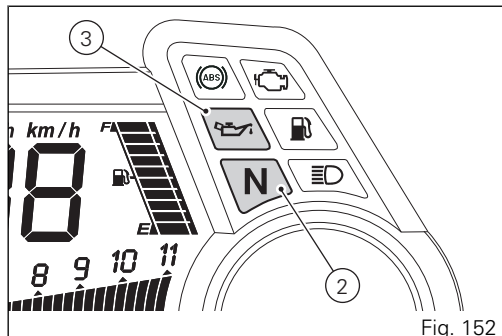
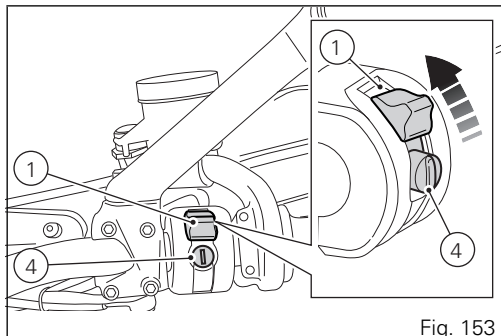

Fig. 152
Fig. 153
The red oil pressure warning light (3, Fig. 152) should go out a few seconds after the engine has started. The engine will shut off by turning the red key (1, Fig. 153) on the handlebar to RUN OFF. To turn on the "Hands free" system and all electronic onboard systems, refer to page 153 "Hands Free System".